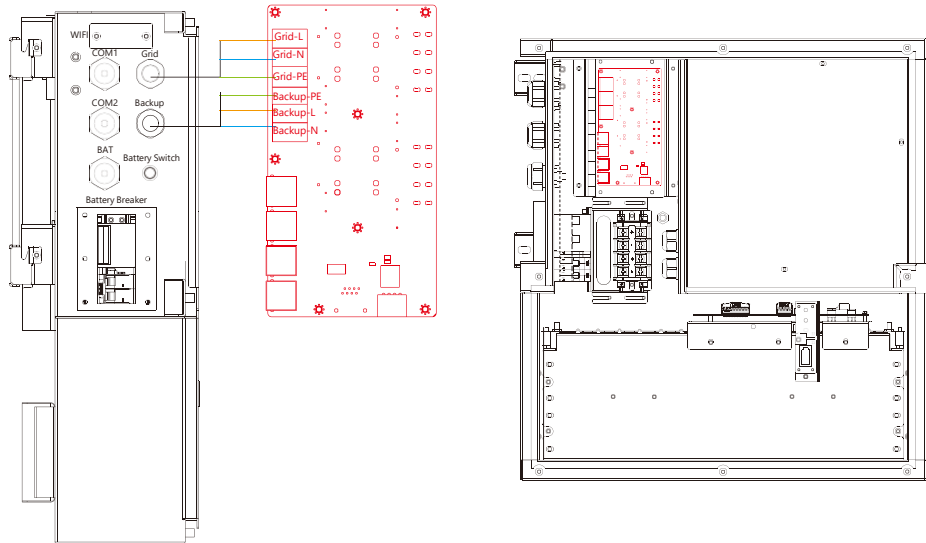

Figure 2.13 Backup and Grid Wire Harness Wiring
**Step 8** Connect Grid and Backup wire harness, as shown in Figure 2.13.